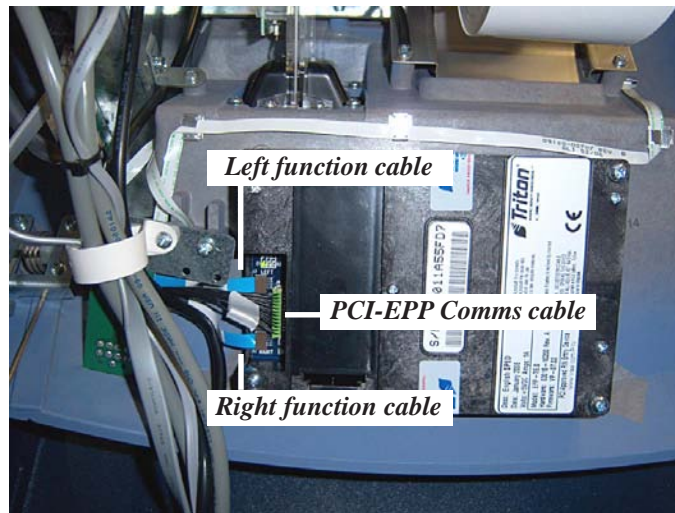

Figure 12. PCI-EPP and cables installed.
9. Install the new PCI-EPP keypad assembly and secure with the four (4) 8-32, 1-1/2" phillips-head screws provided. Connect the new SPED Comms cable (P/N 09120-00636) and the function keys ribbon cables (P/N 09120-00707) to the EPP assembly. Figure 12 shows the EPP and cables connected.
Figure 12 shows the connectivity for the 2 cables.